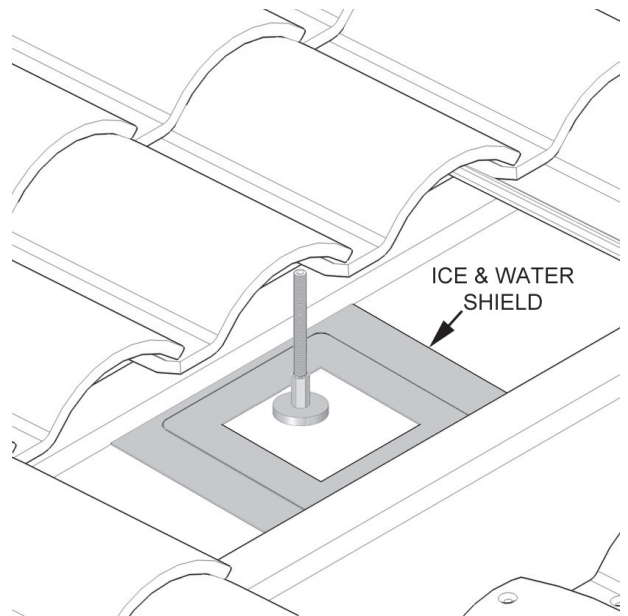

Figure 8.
11. Install an Ice & Water Shield (not included) around the flashing to provide a water tight seal. See Figure 8.